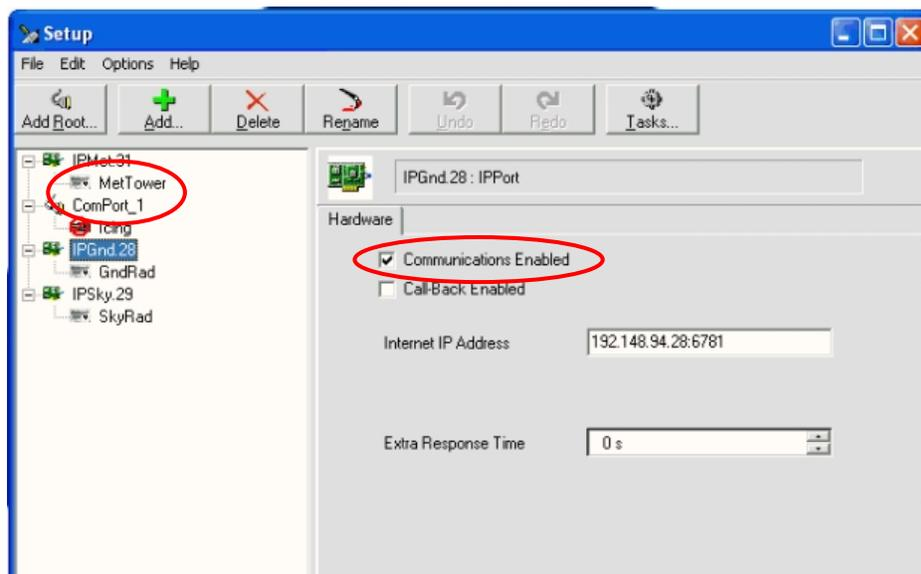

Figure 3
3. Click on the **IPMet.31** root located in the left hand Setup window. Uncheck the **Communications Enabled** box to disable communication to the datalogger (see Figure 3).